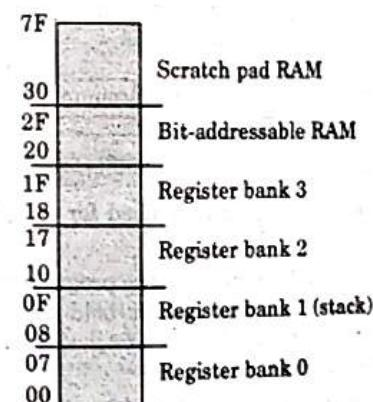

Fig. 4.7.1. RAM allocation in the 8051.
1. A total of 32 bytes of RAM is set aside for the register banks and stack as shown in the Fig. 4.7.1. These 32 bytes are divided into 4 banks of registers in which each bank has 8 registers, R0-R7.